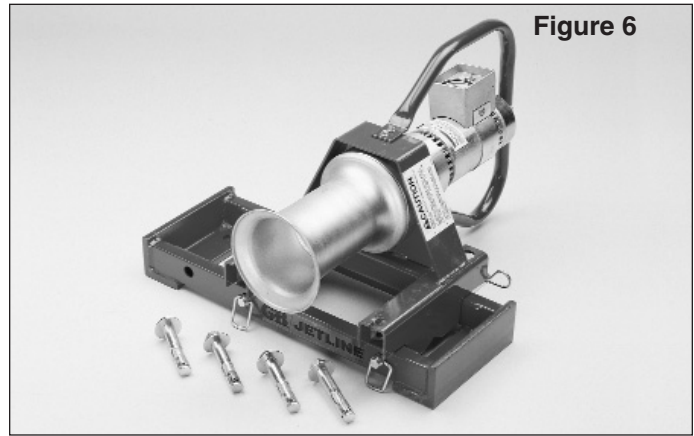

Figure 6
7. Position the CP800 Power Head on the mounting base. See figure 6. Insert the two long pins through the outside of the base into the Power Head frame and exiting the other side of the mounting base. Insert an "R" clip into the hole of each pin.